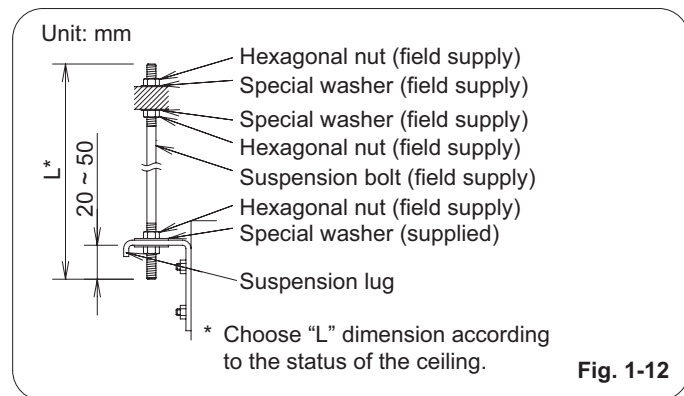

Fig. 1-12
- (3) Suspend and fix the indoor unit using the 2 hexagonal nuts (field supply) and special washers (supplied with the unit) as shown in Fig. 1-12.